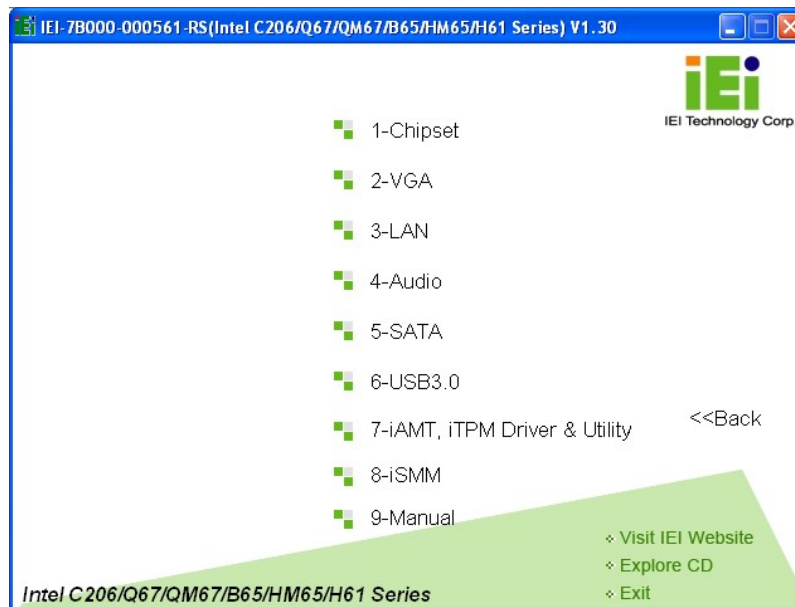

Figure 6-2: Available Drivers
Step 4: A new screen with a list of available drivers appears (**Figure 6-2**).